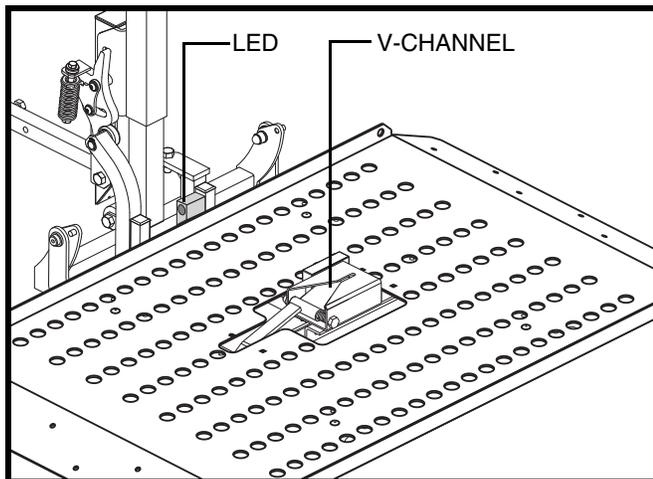

Figure 16. Power Dock
1. Lower the lift platform completely to the ground. Make sure the red LED light is now illuminated. See **figure 16**.
2. Load the power chair onto the platform, ensuring the power dock adaptor is in line with the power dock's "V-channel." See **figure 16**.
3. Advance the power chair to the point where the power dock adaptor is fully engaged with the power dock. The "V-channel" will help guide the power dock adaptor into its proper position. See **figure 16**.